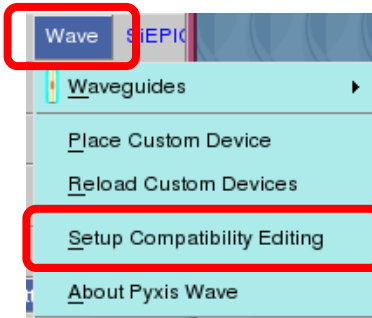

Figure 20: Setting up Compatibility Editing
- To set up compatibility editing, on the main menu select **Wave | Setup Compatibility Editing** (see Figure 20).